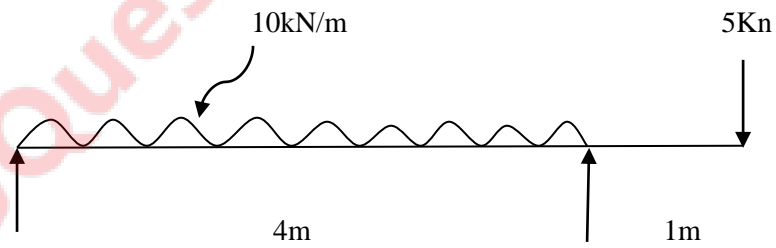

Figure. 2
- (c) Draw shear force and bending moment diagram for the beam as shown in figure.2 ૦૪